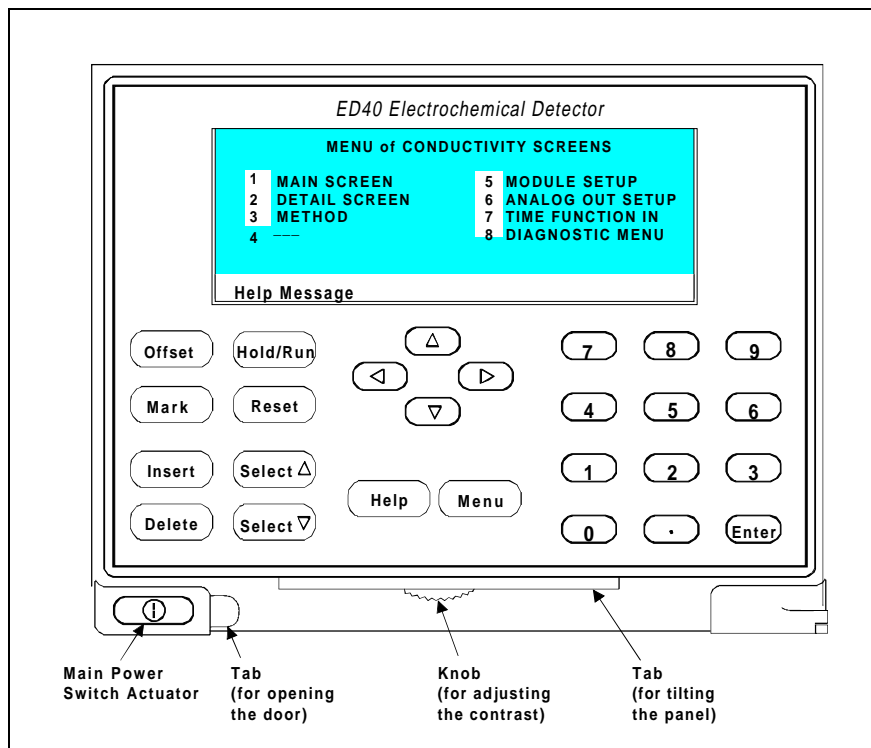

Figure 2-2. ED40 Front Panel
Information is displayed on the LCD, also called the *screen*, in white letters on a blue background. To adjust the screen contrast, use the knurled knob in the recess below the **Help** and **Menu** buttons (see Figure 2-2).
- To tilt the panel, support the door at the left side (to prevent it from opening) and lift firmly on the tab in the recess below the **Help** and **Menu** buttons (see Figure 2-2).
The main power switch is on the bulkhead behind the front door. An actuator for the main power switch is on the outside of the door, at the lower left corner (see Figure 2-2). The actuator functions only when the door is fully closed. When the door is open, press the main power switch on the bulkhead to turn the ED40 on and off.
The front panel keypad (Figure 2-2) is used to control detector operation directly, as well as to create and modify programmed series of timed events, called *methods*.